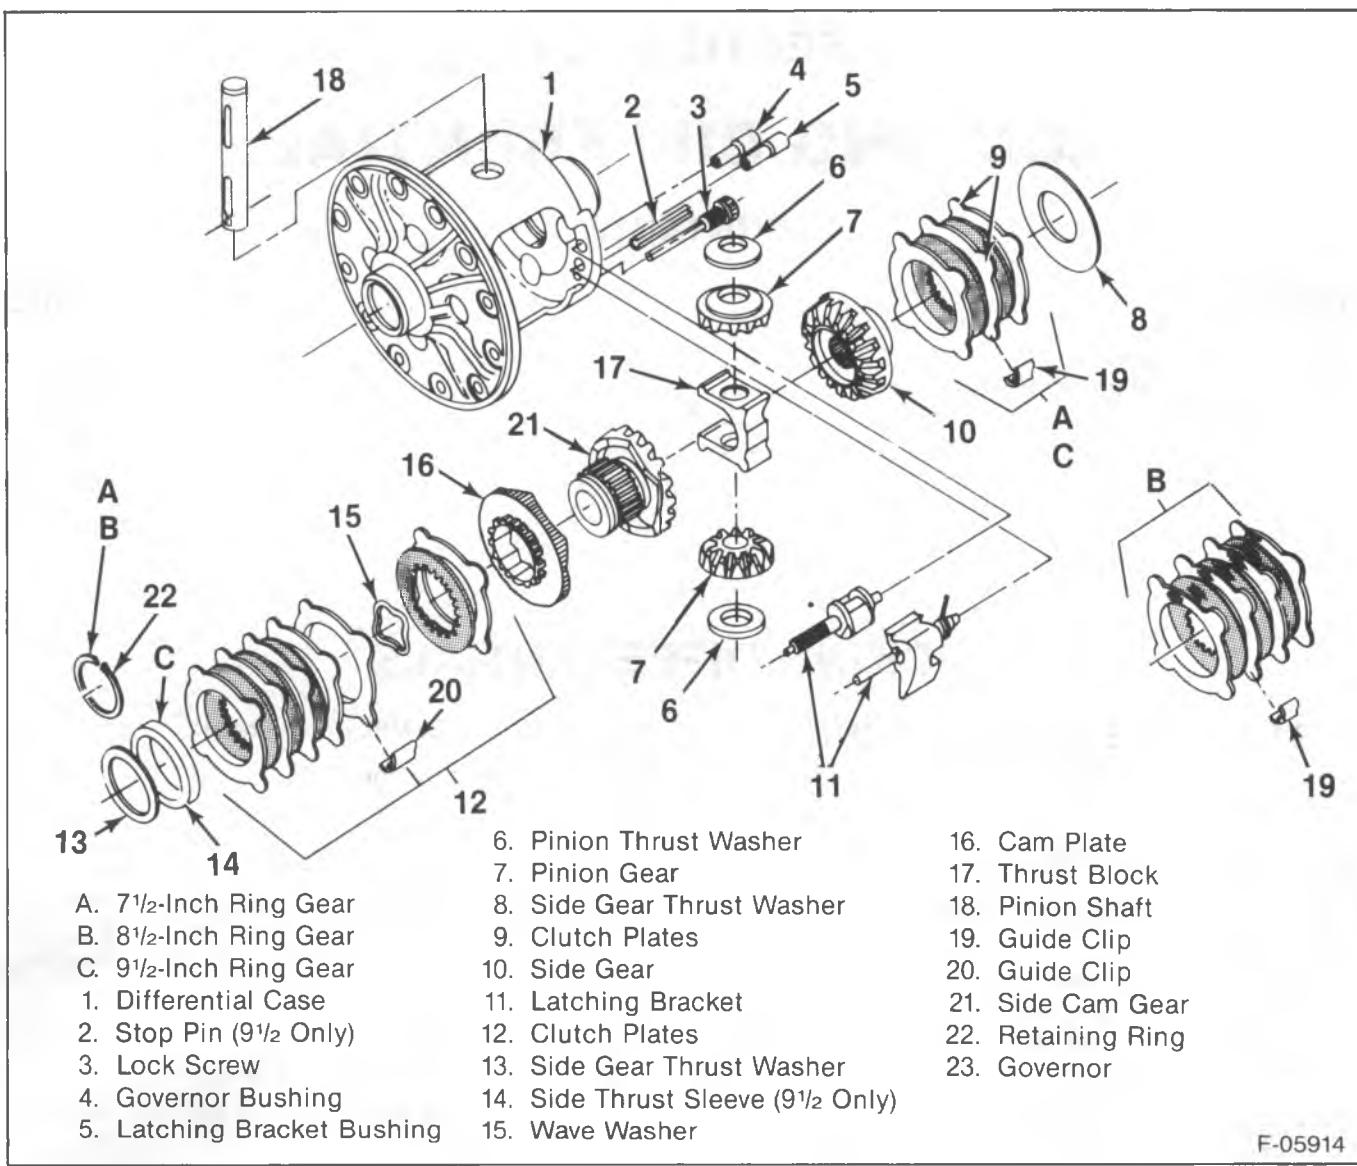
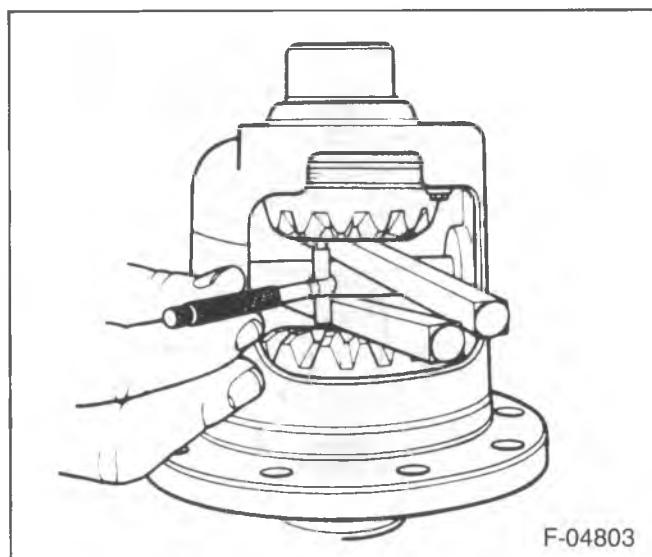

Figure 1—Differential Components
Figure 6—Measuring Side Gear Spread
Remove or Disconnect (Figure 1)
Remove or Disconnect (Figures 1 and 3)
1. Cam plate (16) to the cam side gear (21).
- Alternate the plates as shown in figure 1.
4. Thrust sleeve (14).
5. Guide clips (20) to the plates.
- If the side gear or thrust sleeve has been replaced, measure and record the overall length of the gear assembly from the front of the gear to the back of the thrust sleeve (14) including the side gear washer (13).
2. Assemble the guide clips (19) to the plates.
3. Install the thrust washer (8), clutch plate assembly (9), and right side gear to the differential.
4. Place the pinion gears (7) and thrust washers (6) into the differential.
5. Press down the side gear, and install the pinion shaft (18) and lock screw (3).
1. Left thrust washer (13) to the differential.
3. Right thrust washer (8) to the differential.
- Assemble alternatively as shown in figure 1.
5. Right side gear (10) to the differential.
6. Pinion shaft (18) and lock screw (3). Insert a large tapered tool such as a screwdriver firmly between each side gear and the pinion shaft.
- Measure the side gear spread (figure 6).
Install or Connect (Figure 1)
1. Left thrust washer (13).
3. Right thrust washer (8).
4. Right clutch plates with guide clips (19).
- Assembly alternatively as shown in figure 1.
5. Right side gear (10).
6. Thrust block (17), thrust washer (6), and pinion gear (7).